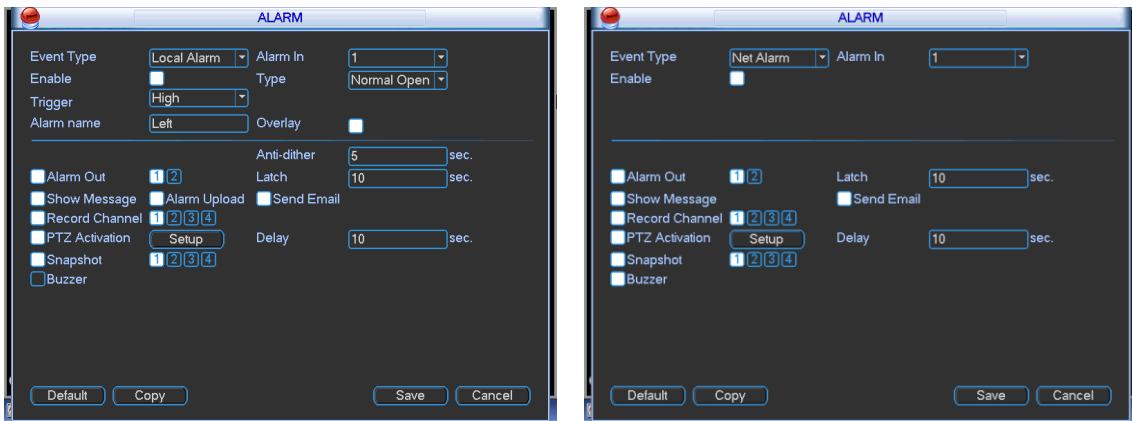

Figure 4-61
- b) In the main menu, from Setting to Alarm, you can see alarm setup interface. See Figure 4-61